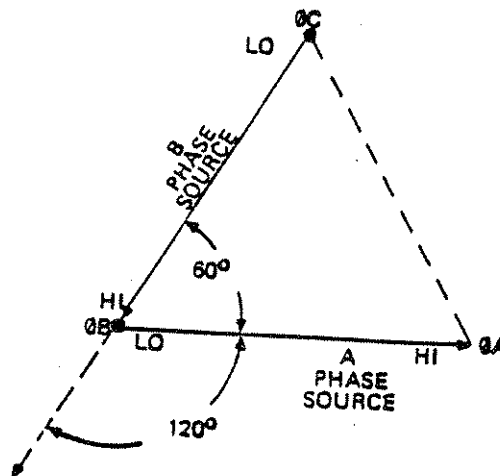

FIGURE 3-1
- 3.1.5 The vector diagram from the open delta connection is shown in Figure 3-1.